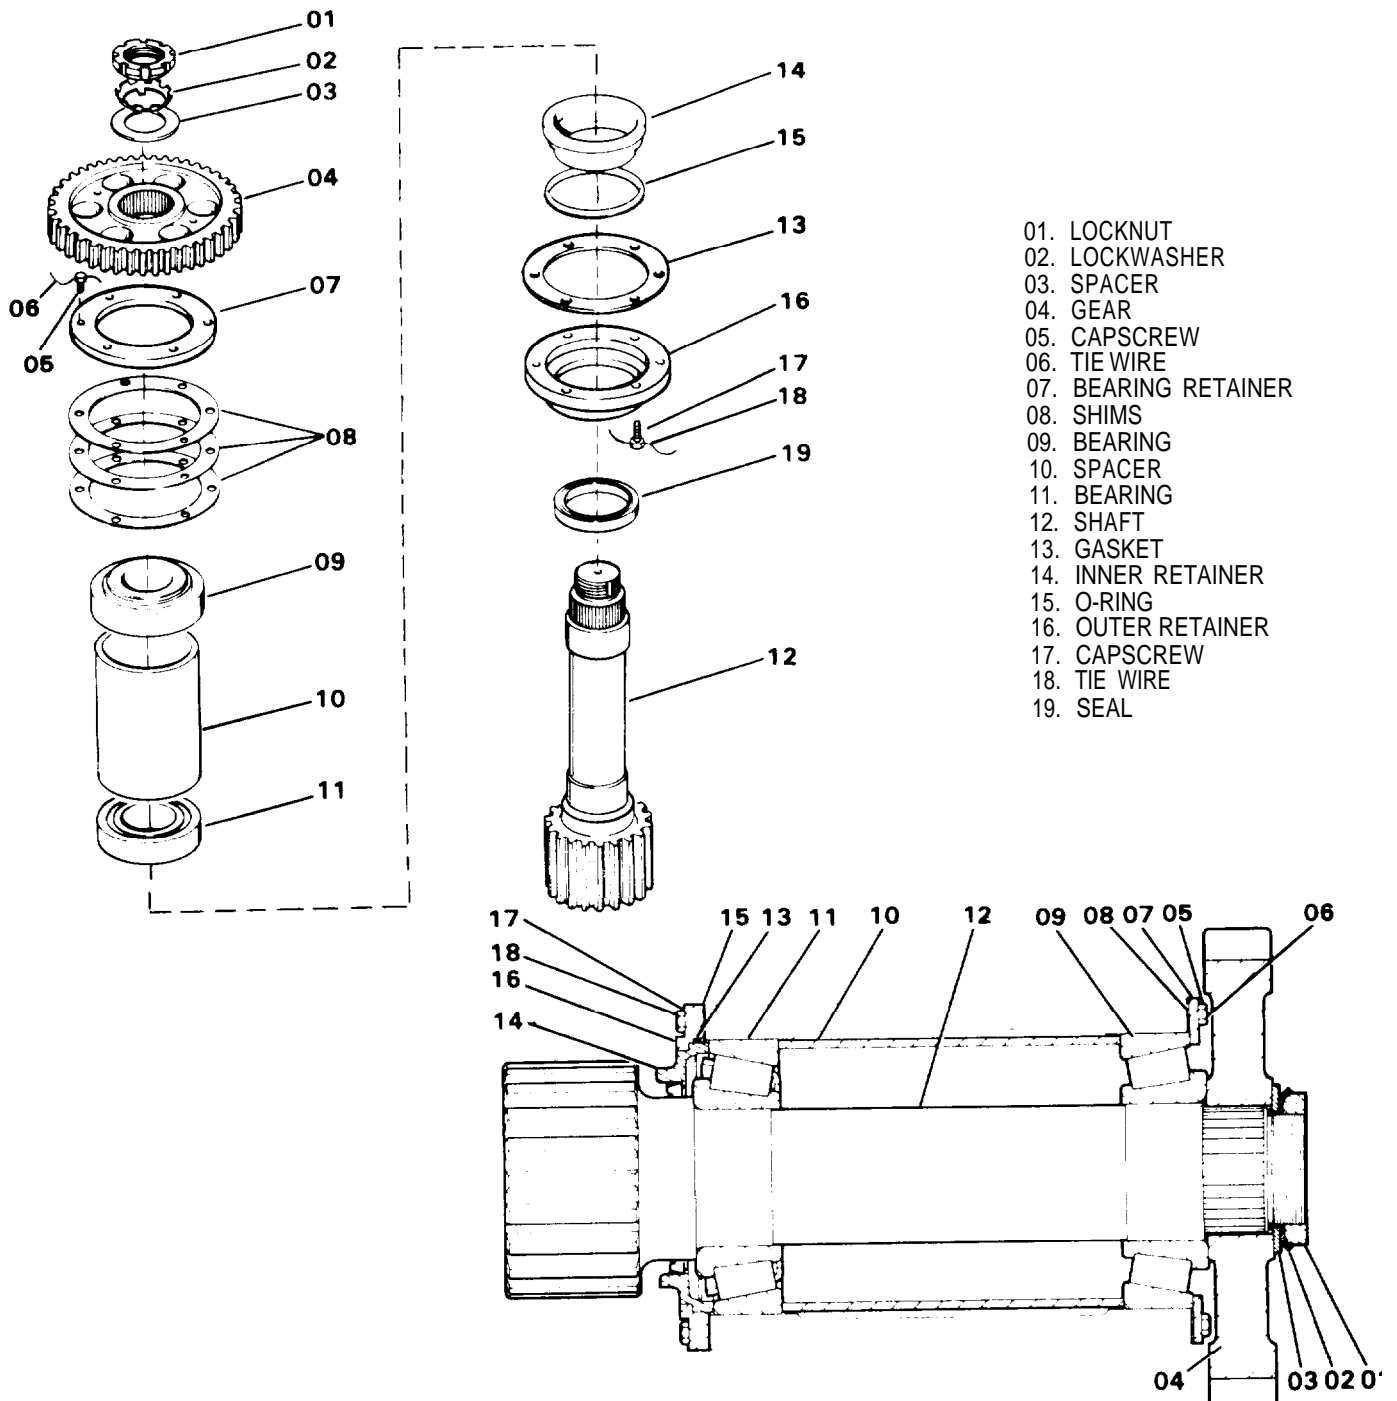

Figure 6D-1. Vertical Swing Shaft (2100J1334-1)
**REMOVAL.** To remove the vertical swing shaft, proceed as follows (see Figure 6D-1 on page 6D-2):
5. Remove locknut (01), lockwasher (02) and spacer (03) from the shaft. Remove gear (04) from the shaft.
6. Loosen bearing retainer (07) by removing tie wire (06) and capscrews (05). Remove retainer (04) and shims (08).
8. Loosen bearing retainer (16) by removing tie wire (18) and loosening capscrews (17).
**DISASSEMBLY.** To disassembly the remaining parts of the vertical swing shaft, proceed as follows (see Figure 6D-1 on page 6D-2):
1. Remove upper bearing (09) from the shaft if it was not removed during removal of the shaft.
2. Remove spacer (10) and then remove lower bearing (11).
3. Remove capscrews (17), retainer (16), gasket (13) and O-ring (15).
4. Remove inner retainer (14) and seal (19).
ASSEMBLY AND INSTALLATION. To assemble and install the vertical swing shaft, proceed as follows (see Figure 6D-1):